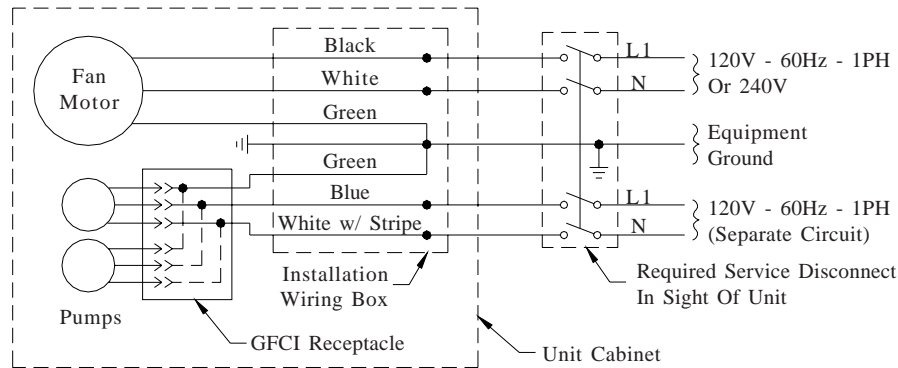

Fig. 8
• **Connect electrical.** Cooler must be connected to the proper line current, voltage and cycle, as indicated on the decal located at the electrical service entrance. Connecting improper voltage to motor will void motor warranty. See the wiring diagrams (figures 8 & 9) on page 3 for wiring electrical connections.